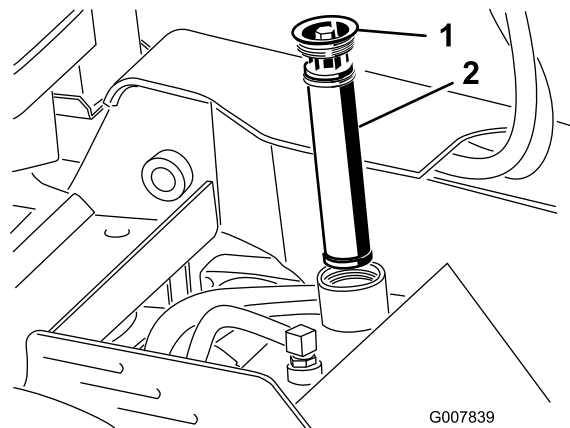

Figure 60
4. Remove and discard the old filter (Figure 60).
5. Install the replacement hydraulic filter and filler cap (Figure 60) and torque the bolt on top to 13 to 15.5 N·m (110 to 140 in-lb).
5. Remove the hydraulic-tank filler cap and filter (Figure 60).
10. Install the hydraulic filter and filler cap (Figure 60) and torque the bolt on top to 13 to 15.5 N·m (110 to 140 in-lb).